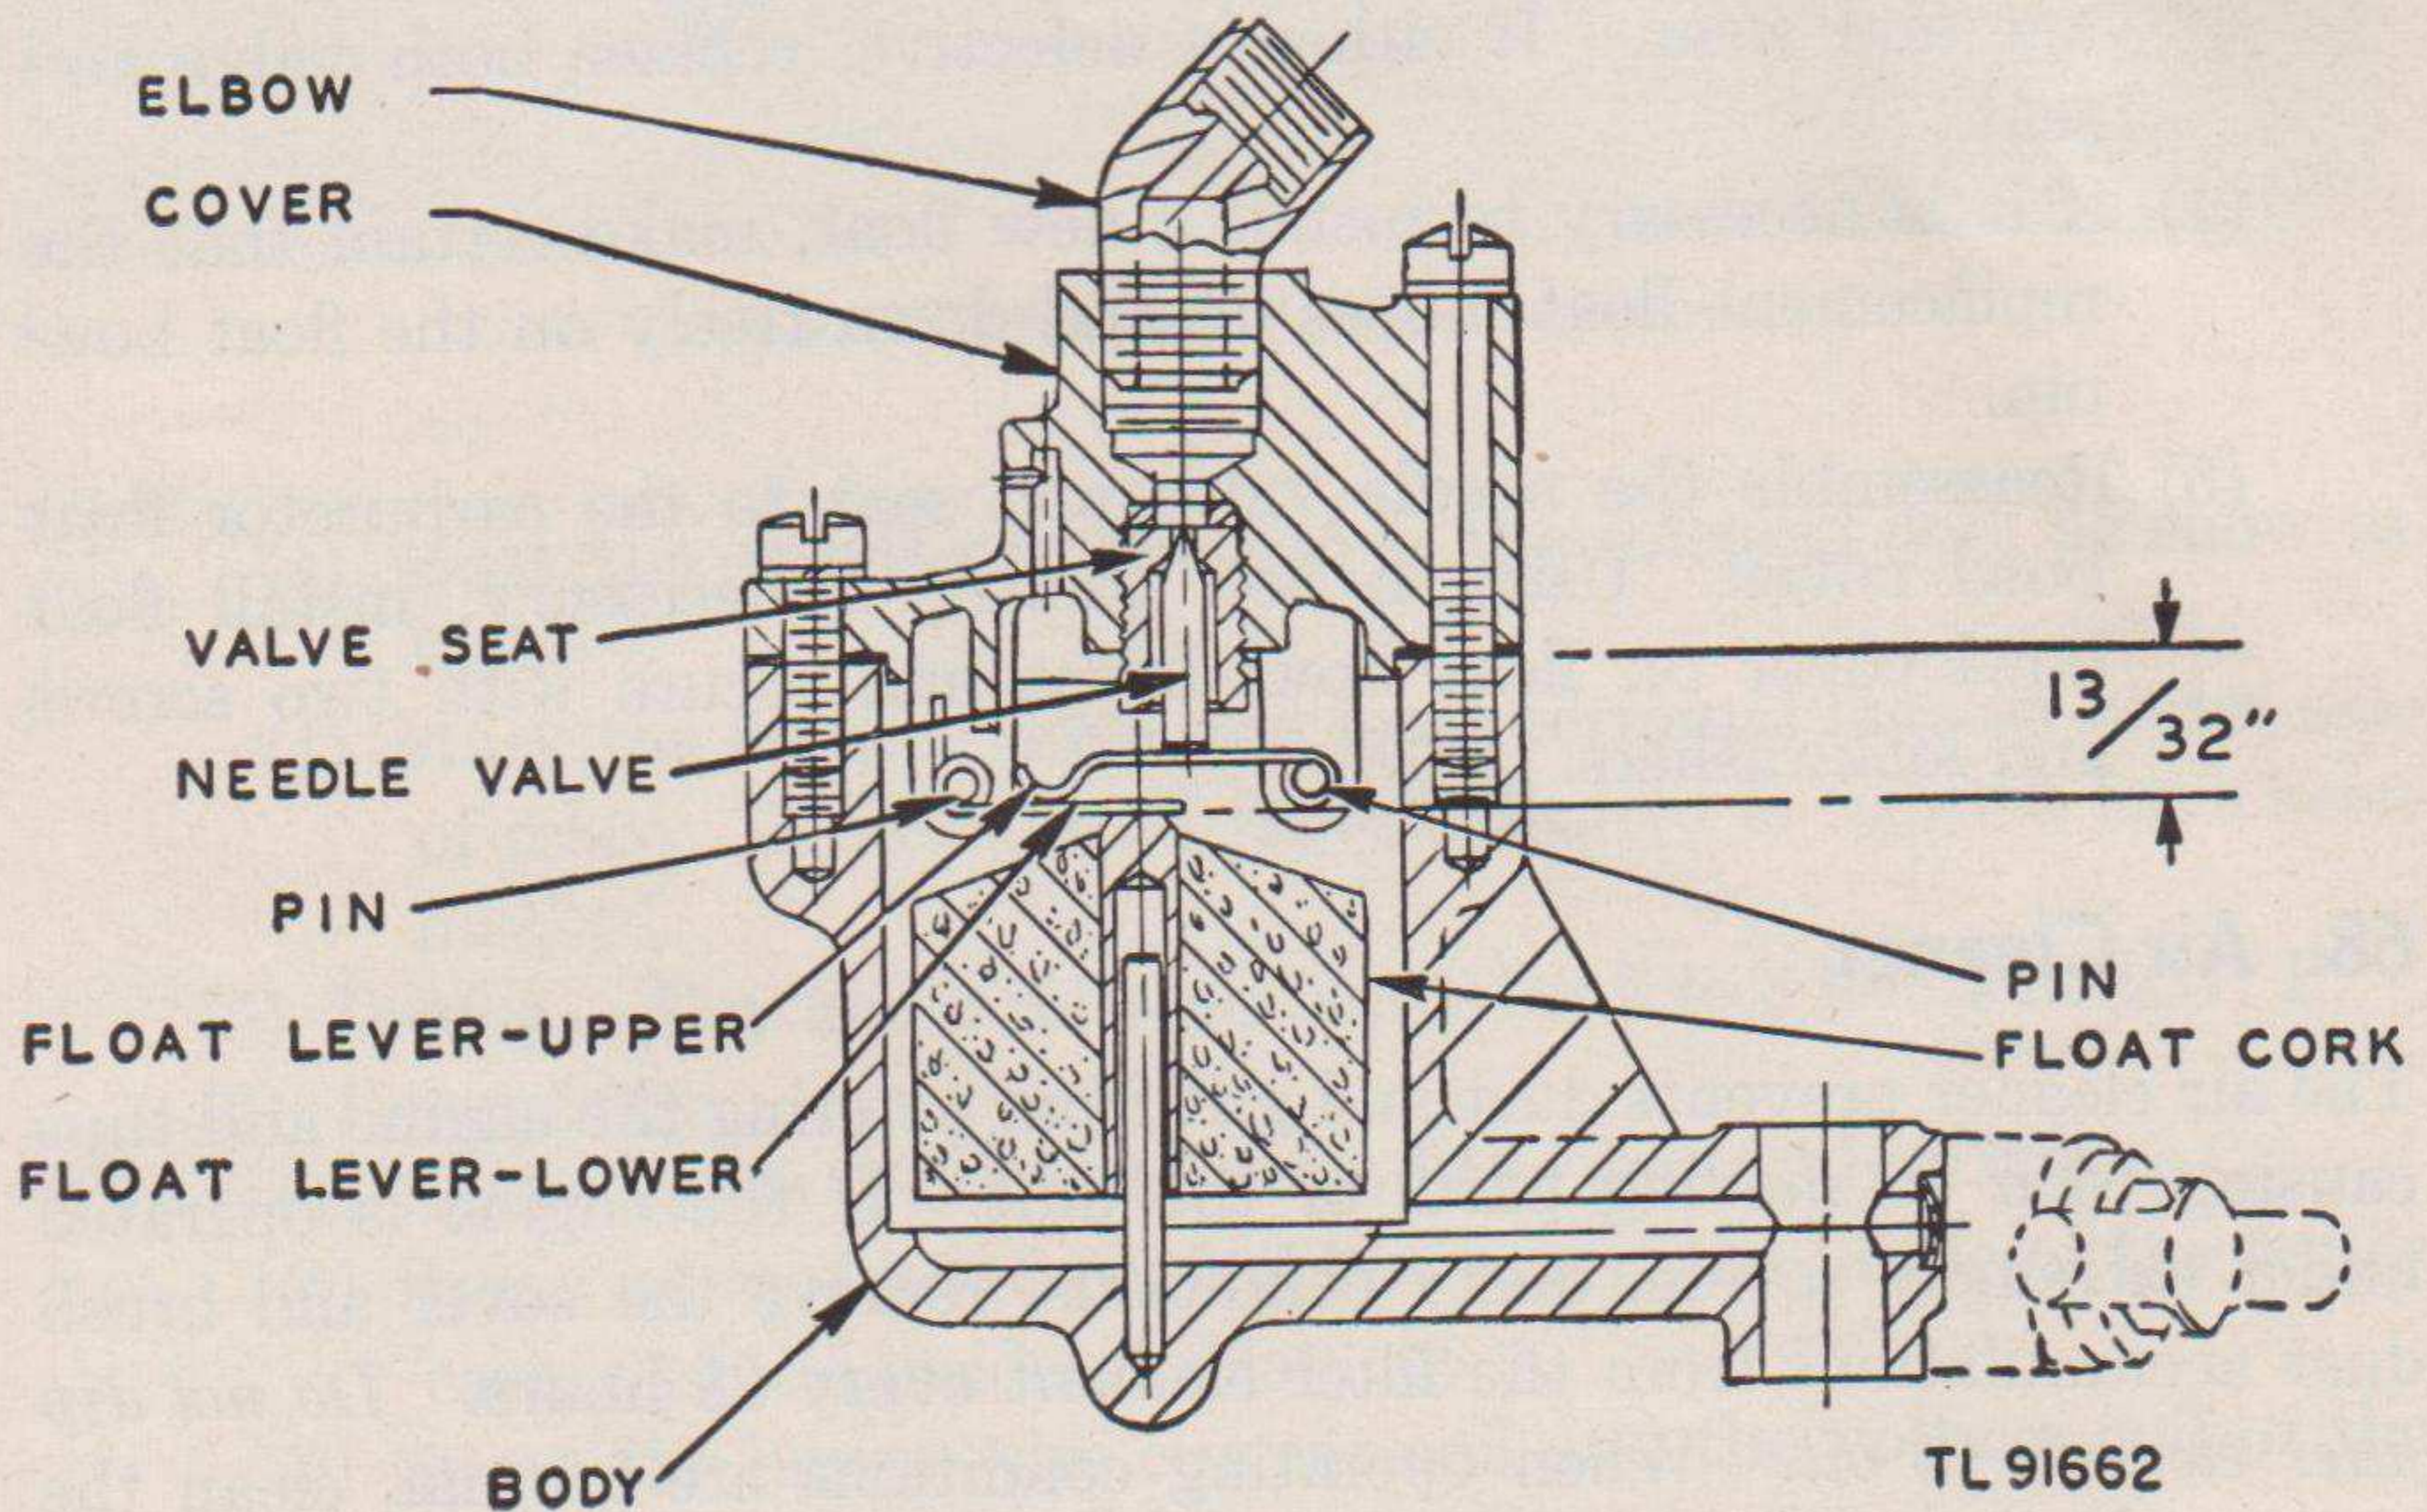

Figure 22. Carburetor float bowl, sectional view.
- (2) Hold the adjustment knob with one hand and loosen the acorn nut on top of knob. Remove the acorn nut.
- (3) Take off spring and unscrew the needle valve by turning it in a counterclockwise direction.
- (4) Remove the screw (and gasket) that attaches the float bowl to the carburetor. With a narrow screwdriver inserted in the hole from which the screw has been withdrawn, unscrew and remove the carburetor nozzle.
- (5) Clean the needle valve and nozzle carefully with solvent (SD) and inspect for damage. Replace worn or damaged parts.
- (6) Using a screwdriver of correct width, screw nozzle back into carburetor body. Nozzle must be snug in body; do not over-tighten.
- (7) Attach the carburetor float bowl to carburetor with the float bowl screw and gasket.
- (8) Screw needle valve back into carburetor, turning it in a clockwise direction as far as it will go into the nozzle.
(9) Turn valve back about  $\frac{1}{8}$  turn.
(10) Replace spring and valve-adjustment knob with the knob against the left-hand side of the stop projection. Screw on acorn nut and tighten it, making sure valve does not move while the acorn nut is being tightened.
d. **FLOAT VALVE AND FLOAT** (figs. 22 and 23). If the engine floods easily when starting (even though it is not overchoked) or if it is not possible to adjust carburetor for satisfactory engine performance, the difficulty may be caused by a faulty float, needle-valve seat, or float cork. If any of these parts are not functioning properly, the level of fuel in the float bowl will be too high, thereby permitting fuel to flow into the air-bleed chamber. To determine that the needle-valve seat is seated properly and the the float levers are not bent too high nor too low, disassemble the float bowl and measure the distance from the lower lever to the face of the float bowl where the gasket is located. Proceed as follows:
(1) Remove the two screws and lockwashers that attach the cover to the float bowl, and remove cover.
(2) With the needle valve in the valve seat, place a straight edge (ruler) across the lower float lever parallel to the carburetor cover. Measure the distance from the bottom of the straight edge to the flange (on the cover) which rests against the gasket. This distance must be  $\frac{13}{32}$  inch. If the distance is not correct,